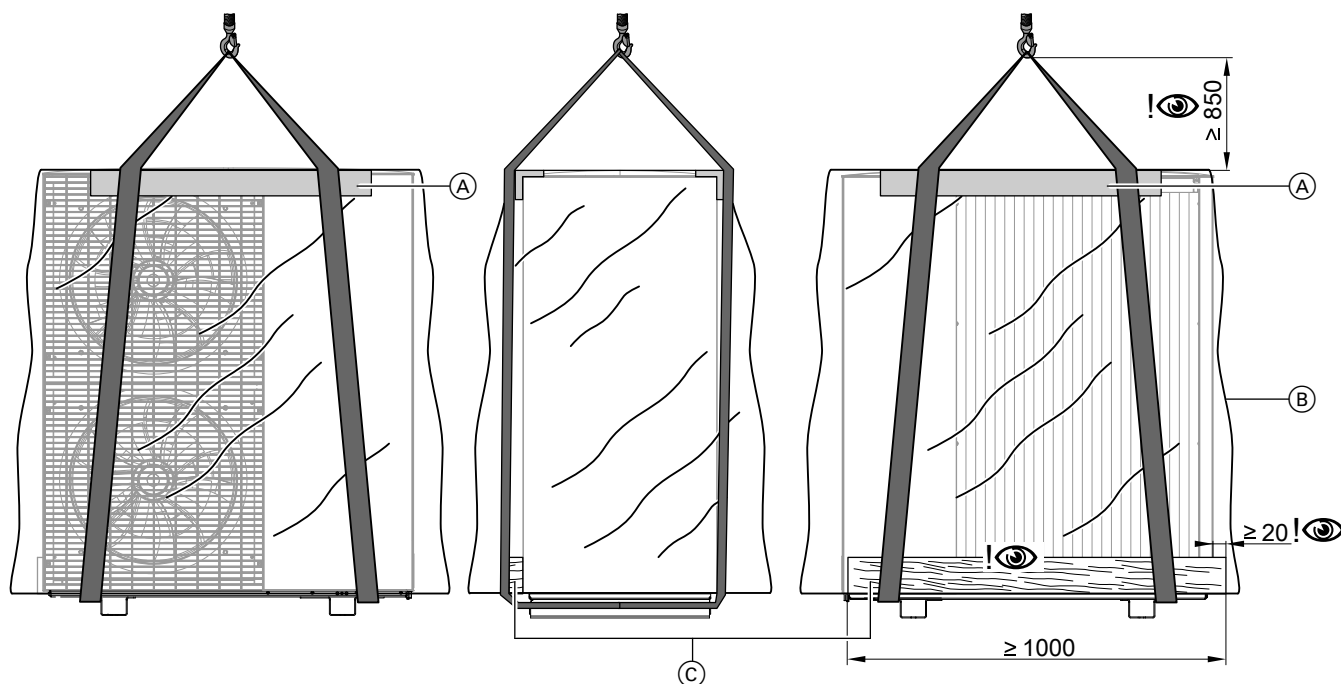

Fig. 7 Transport by crane using the example of the outdoor unit with 2 fans
3. Position the edge protection profiles of the packaging at the front and rear upper edges of the outdoor unit. Place slings properly around the outdoor unit: See Fig. 7.